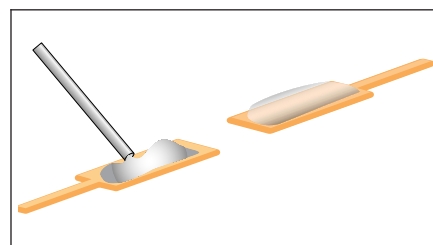

Figure 1 Apply Solder Paste
4. Apply a small bead of solder paste to each land using a dispenser. (See Figure 1.)